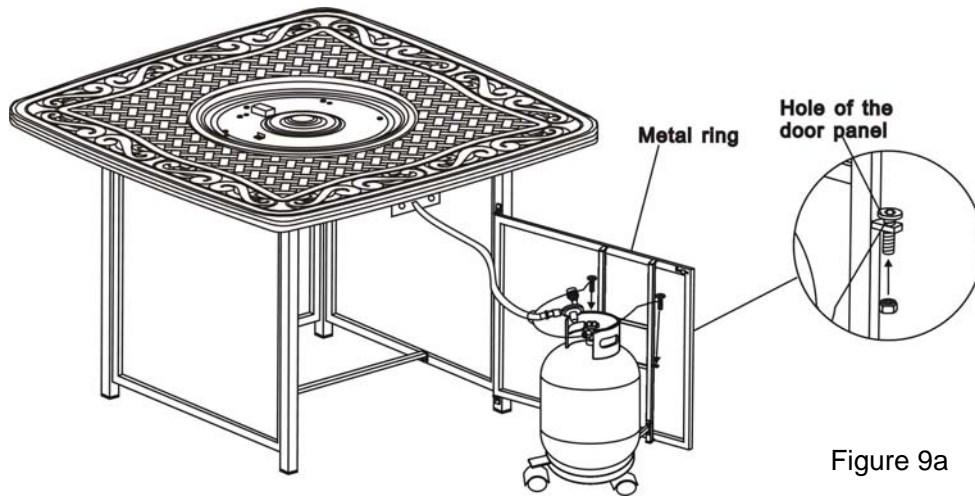
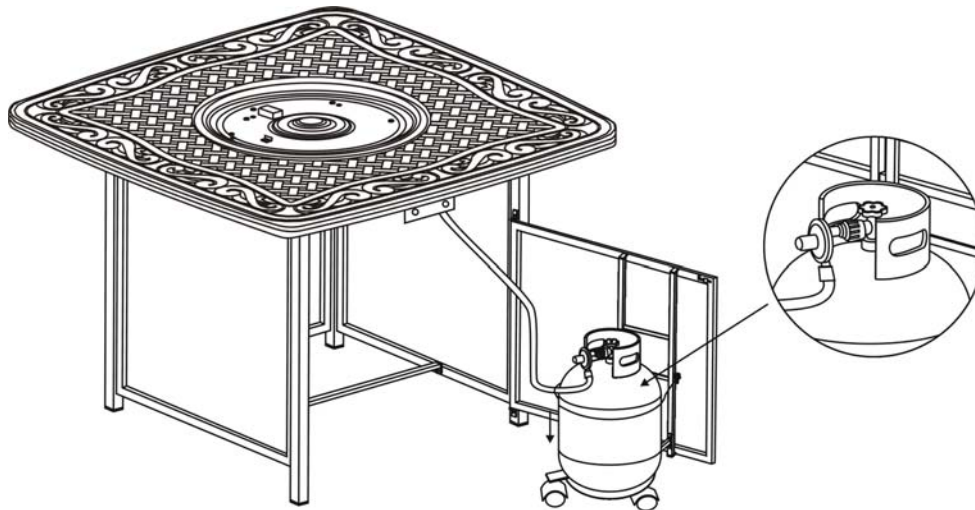

Figure 9
Figure 10
9. Attach the metal ring ( as shown in Figure 9) pre-fitted with gas hose which is connected to the table top , into the hole of the door panel, then use hex bolt driver to screw 1/4"x5mm nut , the gas tank has fixed as shown in Figure 9a. Connect the regulator as shown in Figure.10 Screw the black handle clock-wise to tighten. Turn the handle counter clock-wise to remove. The hose must point down. Check that the valve is turned all the way clockwise to the "OFF" position.